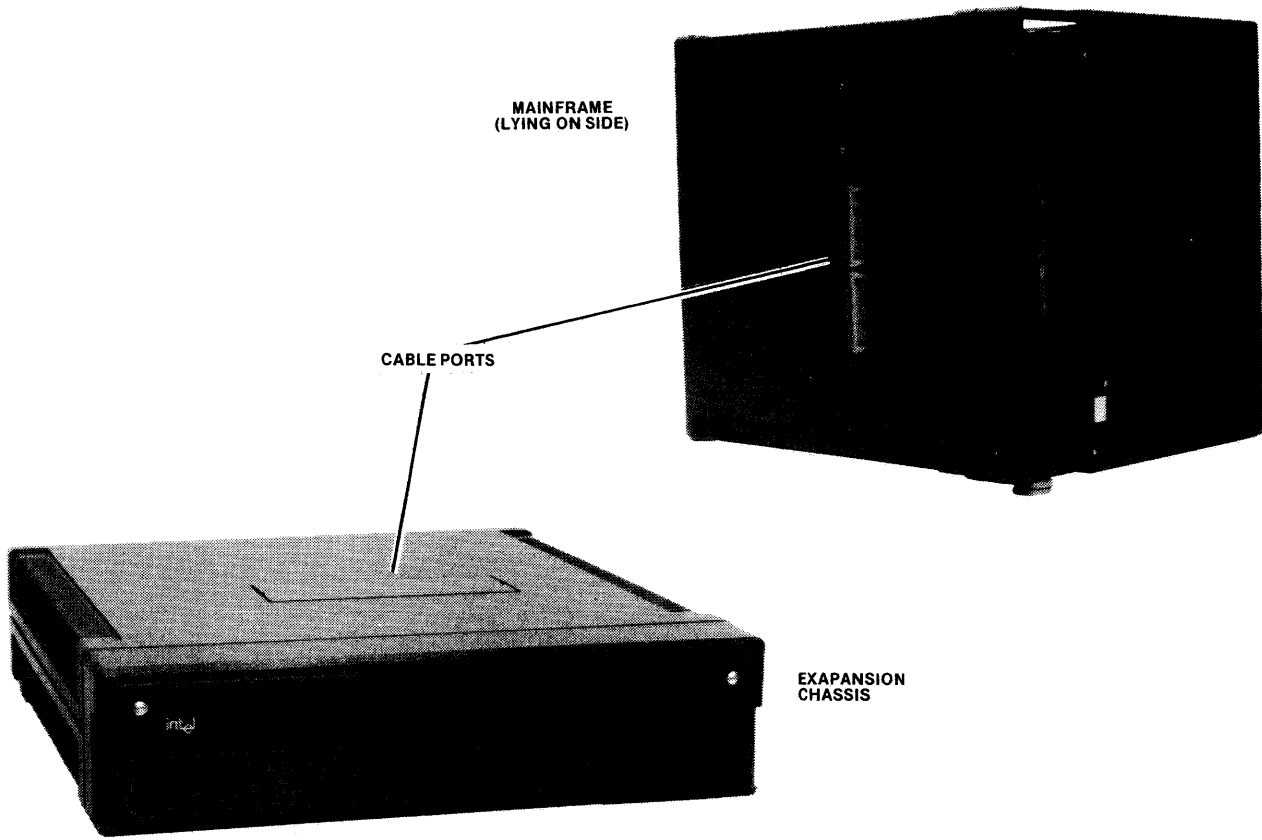

Figure 5-3. Mainframe and Expansion Chassis Cable Ports
- h. Turn mainframe on its side as shown in figure 5-3. Remove cable port covers from mainframe and expansion chassis.
- p. Turn mainframe on its side as shown in figure 5-3. Remove cable port covers from mainframe and expansion chassis.